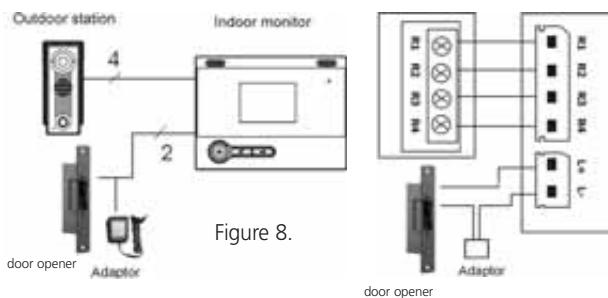

Figure 8.
- To open the door from the monitor (figure 8).
- You need an electric door opener with its own power supply. The door-open-contact of the monitor is a potential-free normally-open (NO) contact.